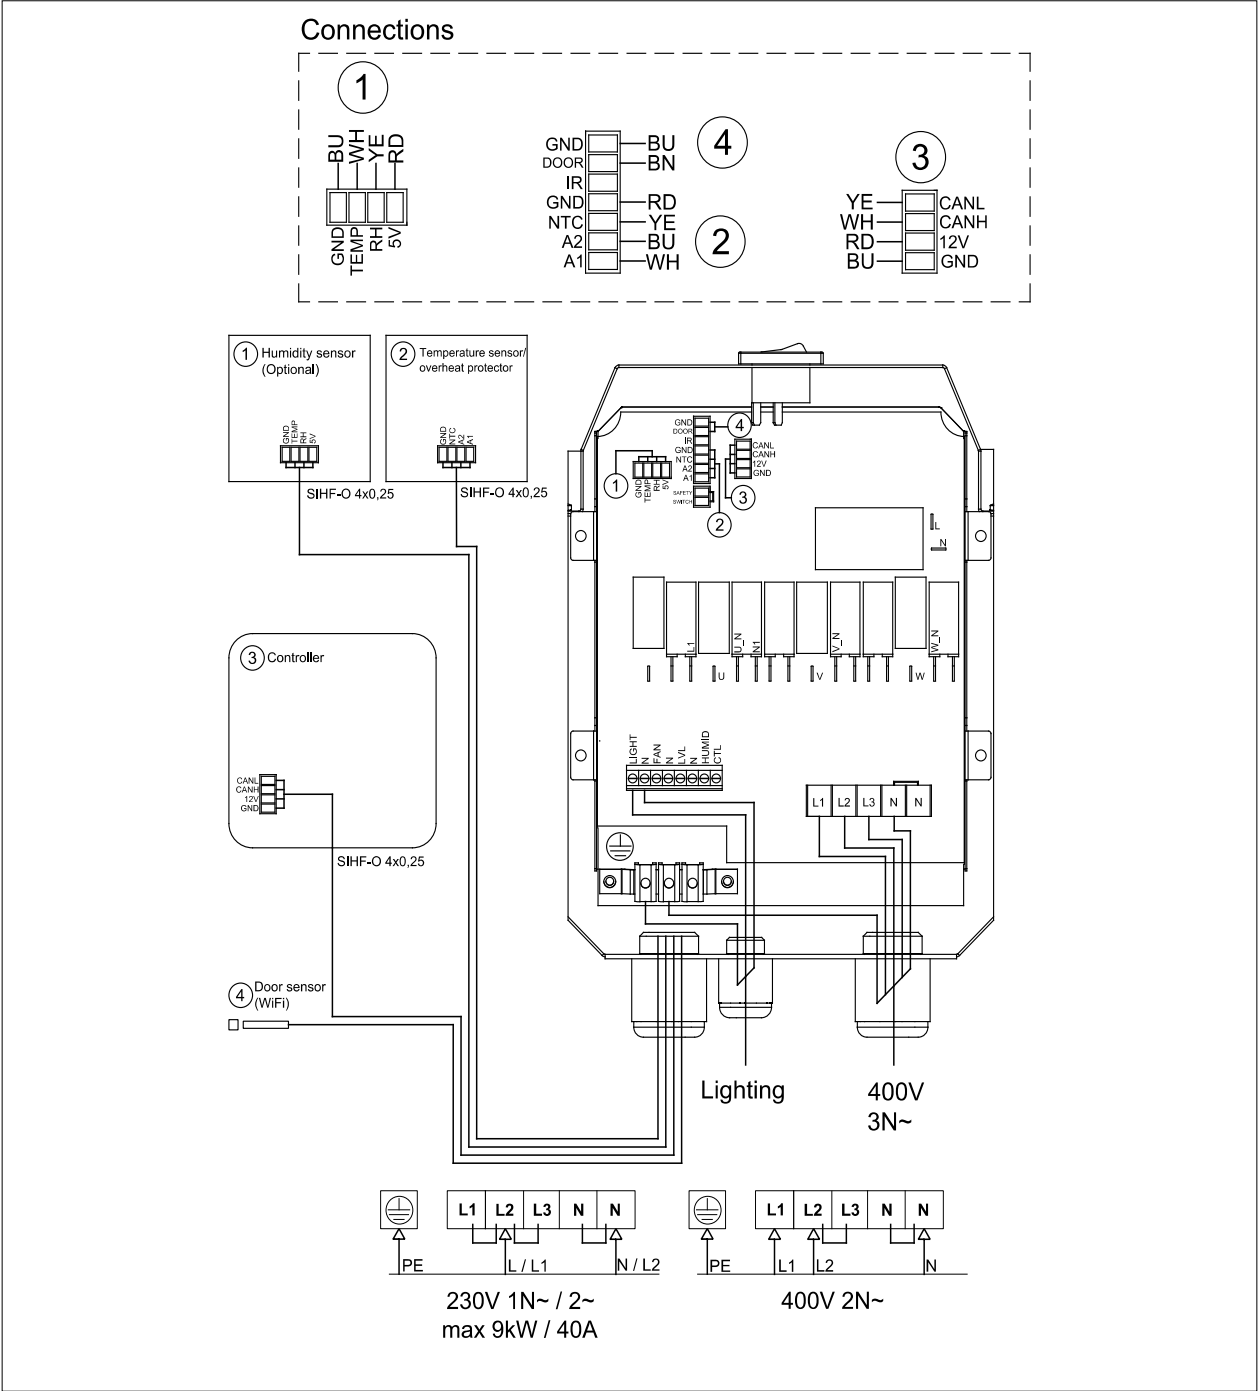

Figure 5.3-1: connection diagram
- 6. Once the components of the controller have been installed and connected, the power supply cable can be connected to the sauna heater according to the connection diagram (Figure 5.3-1). The power supply cable must be a rubber cable of type H07RN-F or equivalent. The cable cross-section and fuse rating are shown in Table 6.1-2.